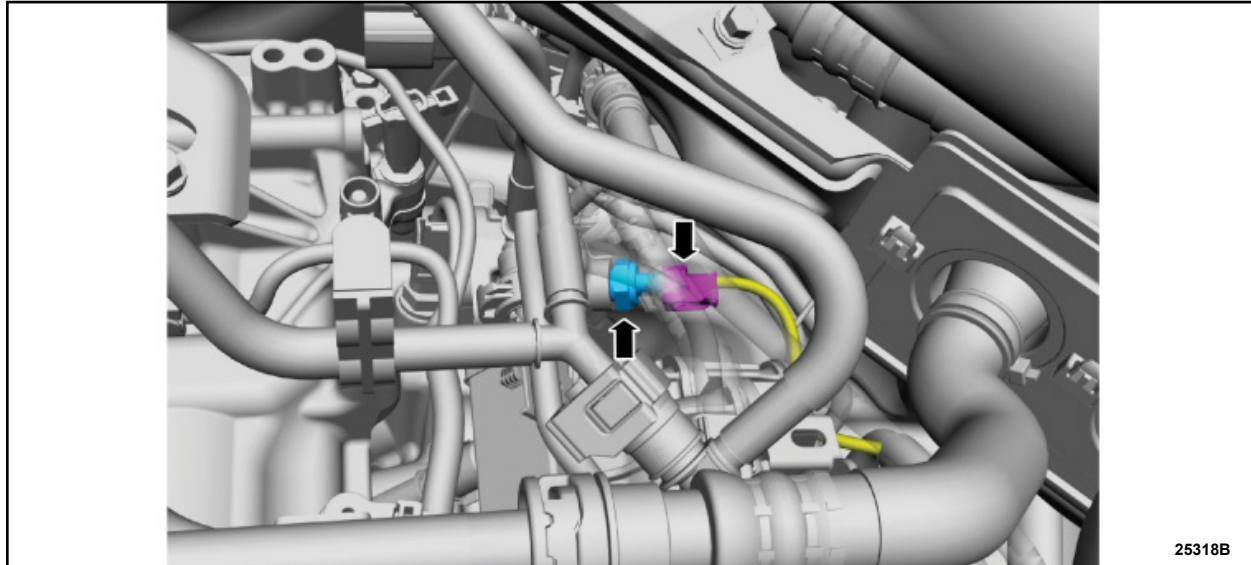

FIGURE 2
3. Replace the ECT sensor. See Figure 2.